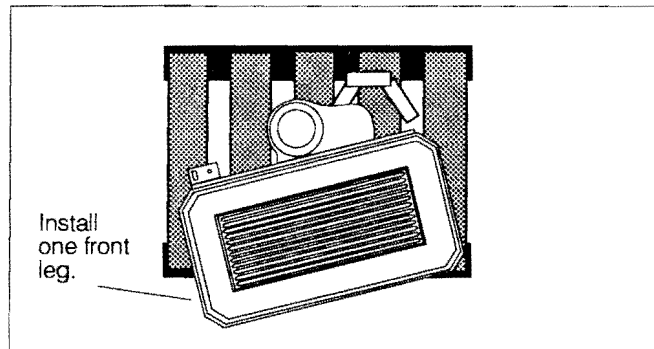

Figure 3.
**Step 2.** Carefully pivot the stove until one front corner overhangs the pallet enough to attach a leg to the stove. Remove the hex head leg bolt from the stove bottom and use it together with a flat washer to attach the leg to the stove. Fig. 3.